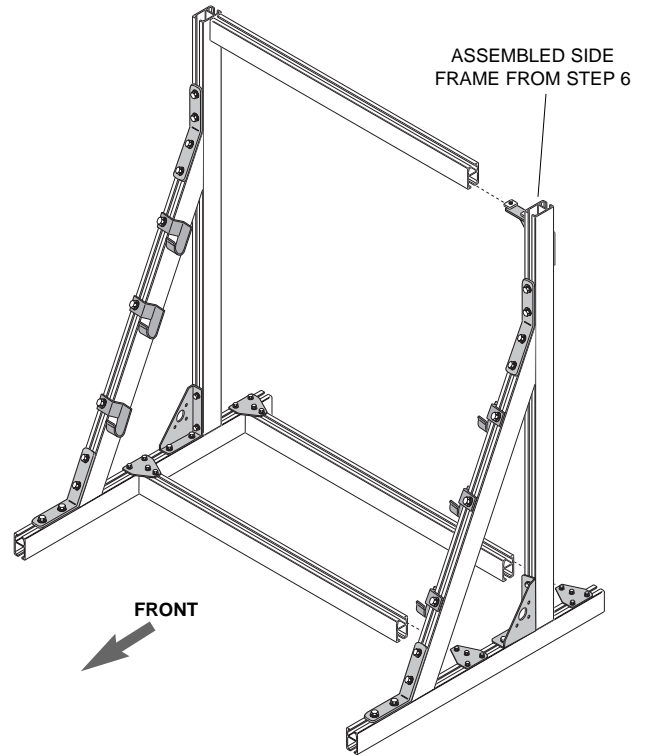

Figure 8.
8. Stand assembly upright and attach other side frame (Fig 8). Square unit and securely tighten all bolts.